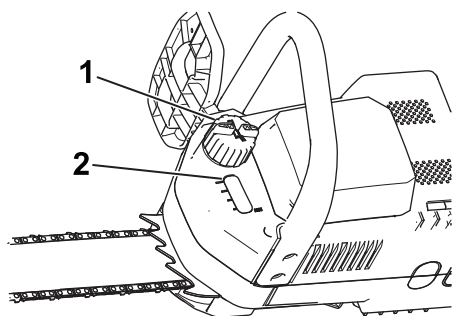

Figure 26
- Check the oil level in the window. If you cannot see oil in the window, add bar and chain oil to the chain saw (Figure 26).
- Clean the area around the oil cap (Figure 26).
- Remove the cap and pour oil into the chain saw until the oil fills the window (Figure 26).